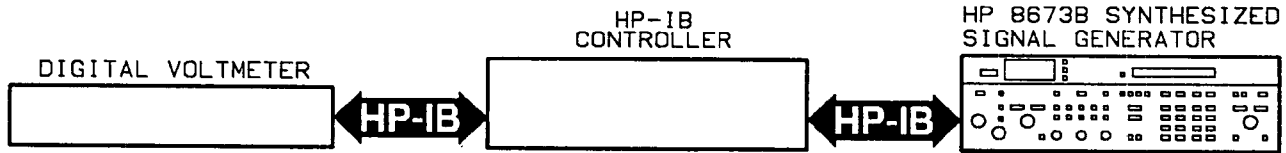

Figure 5-21. SRD Bias Adjustment Test Setup
1. Connect the Signal Generator and voltmeter to the controller via the HP Interface Bus as shown in figure 5-21.